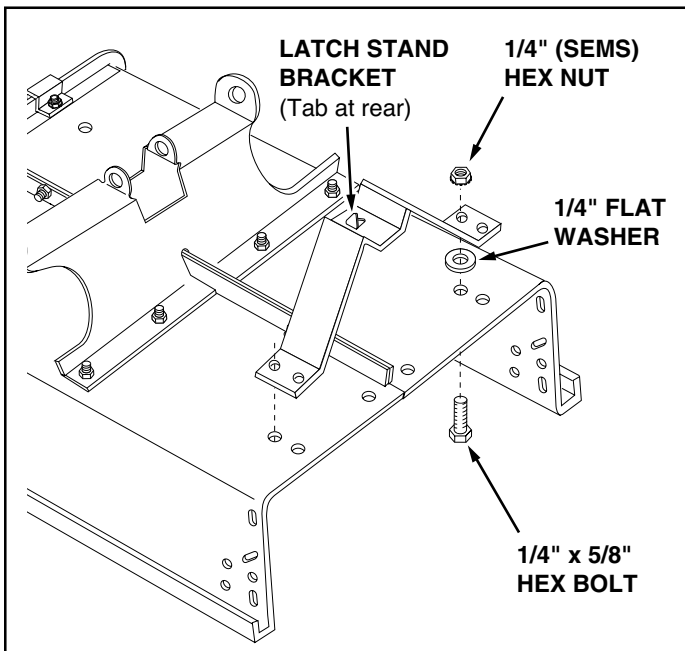

FIGURE 5
8. To prevent accidental tipping during the following assembly procedures, lower the cart to rest upside down, with the wheel support facing up, as shown in figure 5.
9. Align the latch stand bracket so that the tab is at the rear. Fasten the bracket to the rear set of holes at the front of the cart using two 1/4" x 5/8" hex bolts, 1/4" flat washers and 1/4" (SEMS) hex nuts. Use the 1/4" flat washers as shims between the bracket and the cart bed. **Make finger tight.** See figure 5.
19. **Tighten** the two bolts that you assembled to the latch stand bracket in figure 5.